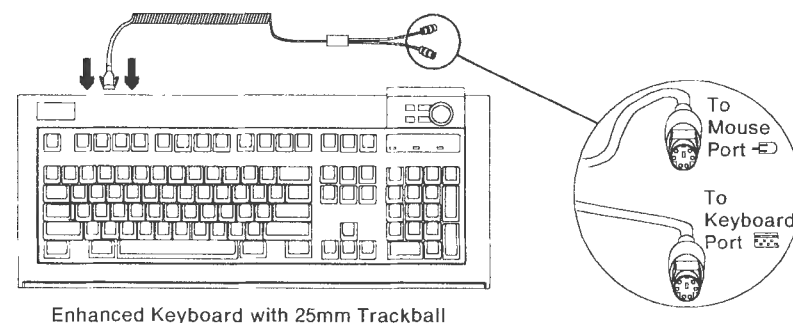

Figure 2.
2. Your new keyboard includes a cable. Plug the cable into your keyboard (See Figure 2).
4. Referring to inset of Figure 2, plug the new keyboard connector (icon ) into the computer keyboard port. If you have difficulty locating the port, refer to your computer manual.
6. Referring to inset of Figure 2, plug the trackball connector (icon ) into the mouse port. If you have difficulty locating the mouse port, refer to your computer manual.